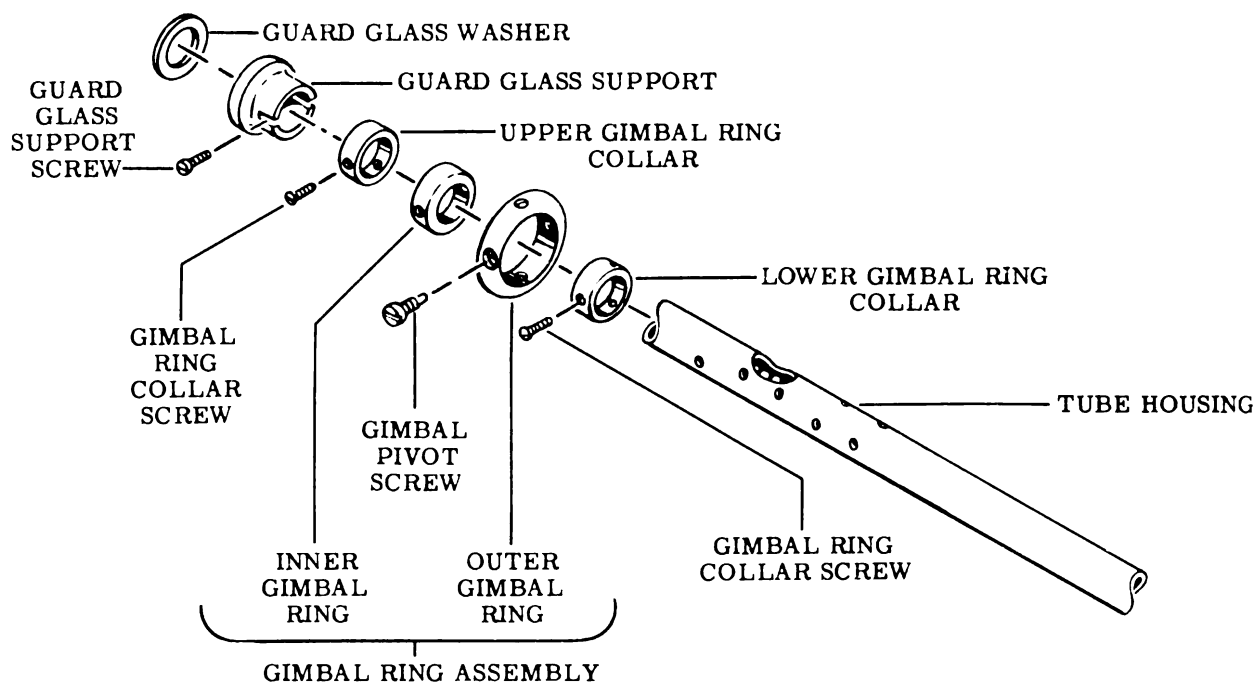
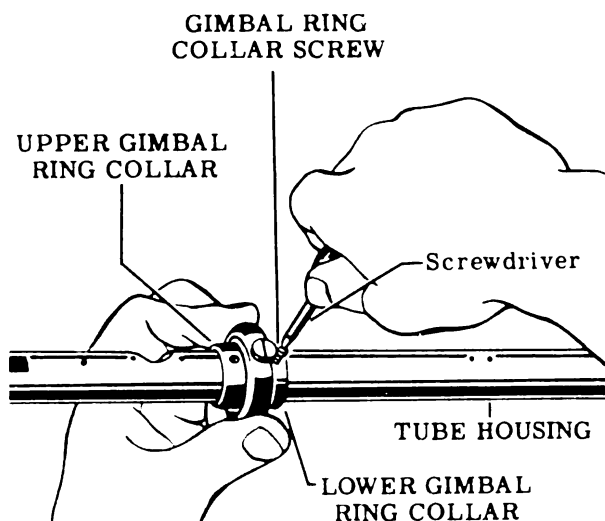
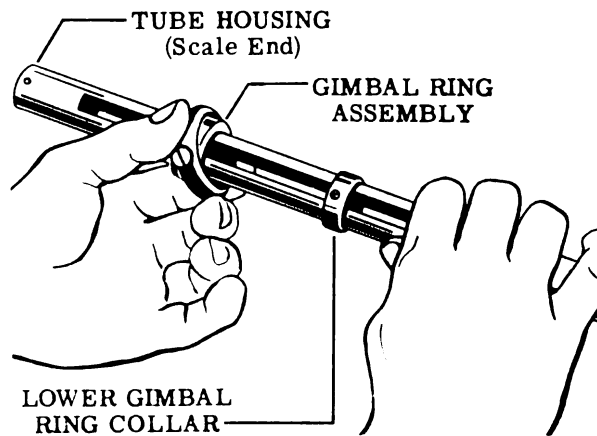

Figure 16
Figure 17
Figure 18
32. Remove the two guard glass support screws. Slide the guard glass support off the scale end of the tube housing. Then remove the guard glass washer from inside the support. See the exploded view, Fig. 16.
collars. See Fig. 17, and the exploded view, Fig. 16.
34. Slide the gimbal ring collars and the gimbal ring assembly off the scale end of the tube housing. If the rings are tight, squeeze the tube housing very slightly with your fingers to facilitate their removal. See Fig. 18, and the exploded view, Fig. 16.
35. Remove the two gimbal pivot screws from the outer gimbal ring to disassemble it from the inner gimbal ring. See the exploded view, Fig. 16.